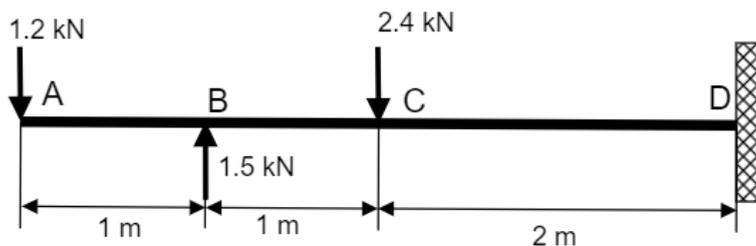

Figure Q6a: Cantilever beam.
a) A cantilever beam supports three point loads as shown in **Figure Q6a**. For this beam configuration